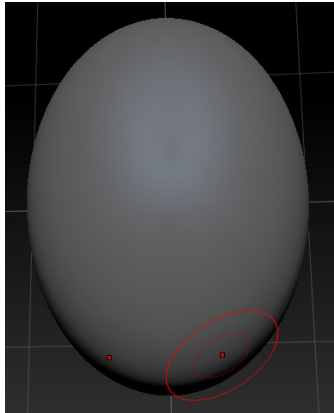

Figure 3-54 Top view of the turtle shell
9. To view the elongated *turtle shell*, you need to switch to its top view. To do so, press and hold the left mouse button, and drag the cursor downward in the canvas area; the view is rotated and the top view of the *turtle shell* is displayed, refer to Figure 3-54.